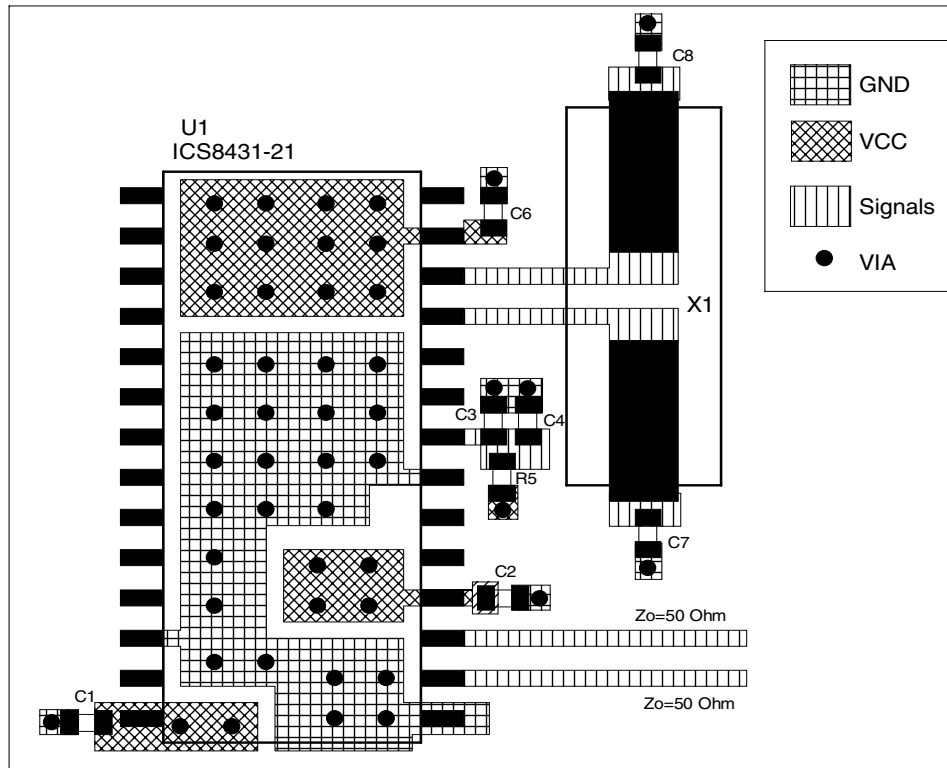

FIGURE 5B. PCB BOARD LAYOUT FOR ICS8431-21
*Figure 5B*. This layout example is used as a general guideline. The layout in the actual system will depend on the selected component types and the density of the P.C. board.